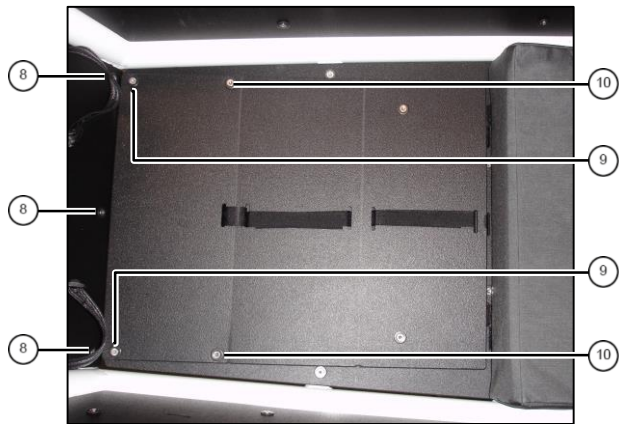

fig. 3: single seat
5. Mount front plate at points ⑧ with brackets, screws, washers and flange nuts out of step 1 (fig. 3).
6. Mount single seat at points ⑨ with 2 countersunk screws M5x30, washers M8 and flange nuts. Mount single seat at points ⑩ with 2 countersunk screws M5x25, washers M8 and flange nuts (fig.3).